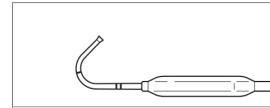

Figure 9: Maxillary Bend
– **Maxillary Sinuses:** When treating the maxillary ostia/ethmoid infundibula, a bend of approximately 120 - 135° (Figure 9) is recommended to gain access to the natural maxillary ostium. Use the included Bending Tool to achieve this geometry.